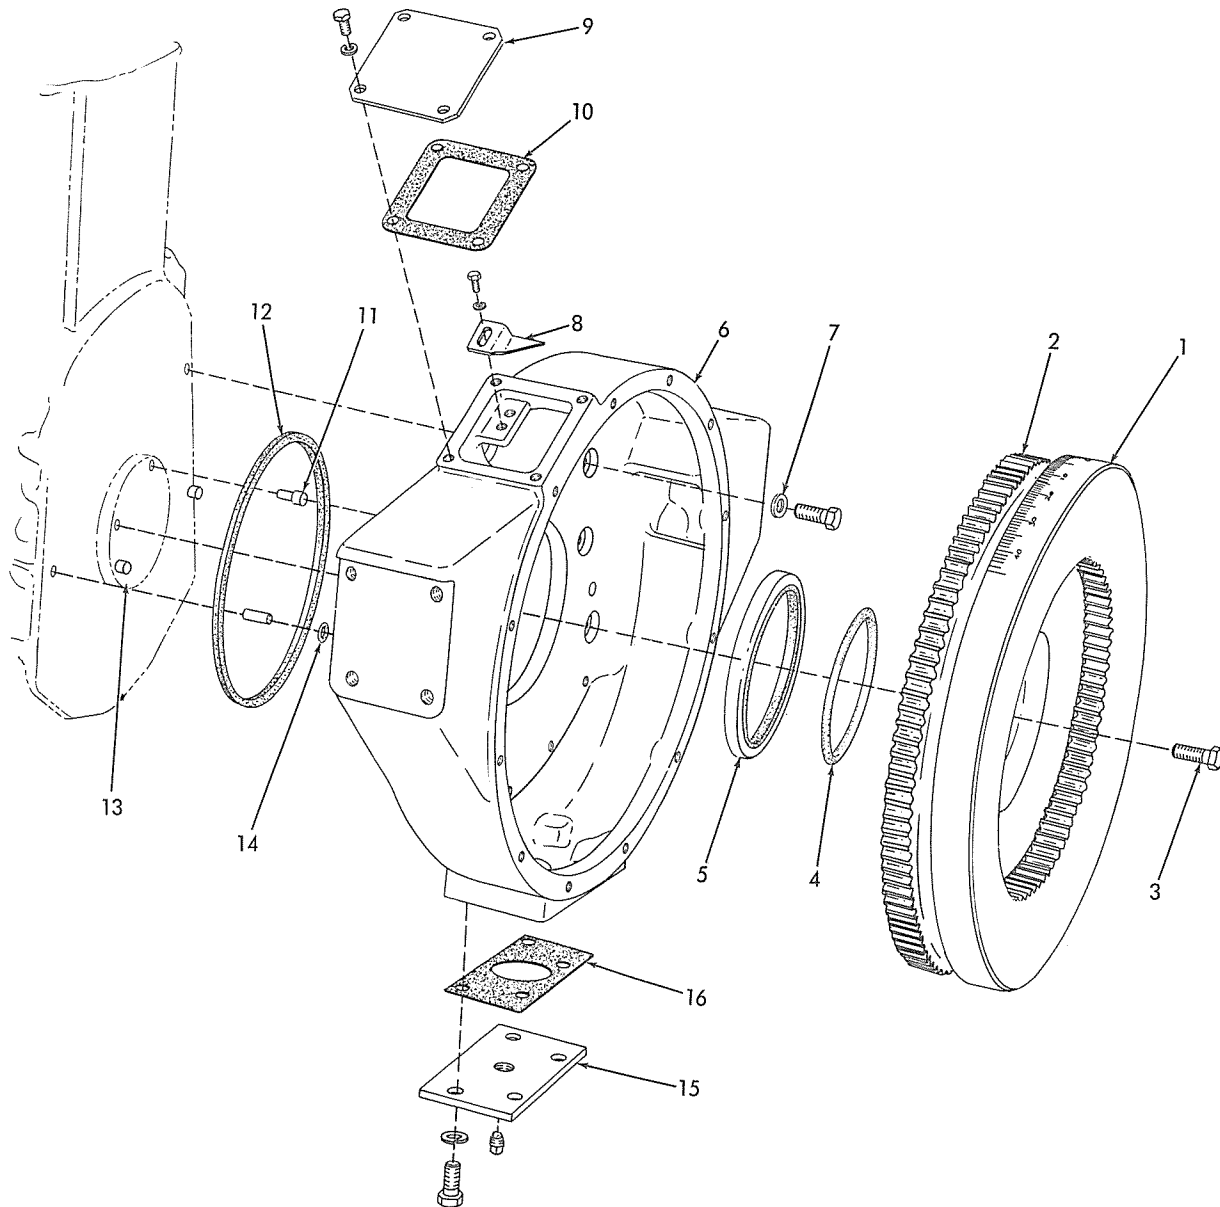
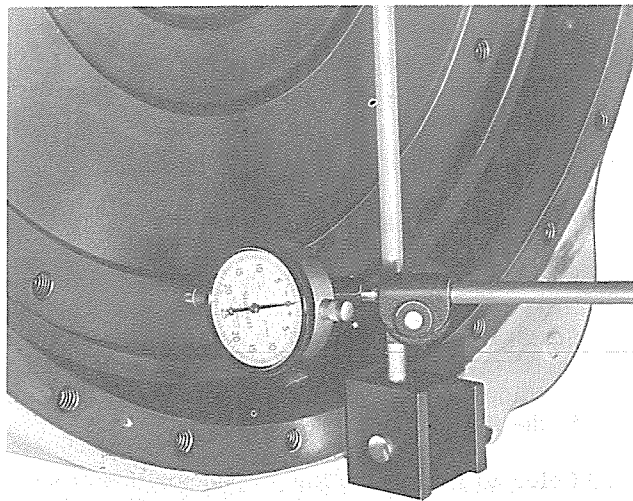

Fig. 1 — Typical Flywheel and Flywheel Housing
Fig. 2 — Measuring Run-Out of Flywheel Face (T-40271)
The flywheel Fig. 1 (1) is bolted to a flange (13) on the rear end of the crankshaft and is doweled (11) in two places. One capscrew hole in the flywheel is offset and the flywheel can be attached to the crankshaft flange in only one position. A starter ring gear (2), made from heat treated steel, is shrunk onto the rim of the flywheel.
- Remove bolts, Fig. 1 (3); attaching flywheel (1) to crankshaft flange (13) and remove flywheel.
- Install flywheel by reversing the removal procedure, and on applications requiring a new O-ring, Fig. 1 (4), insert it between flywheel and crankshaft flange when assembling flywheel to engine.
- After flywheel is assembled to crankshaft, tighten the flywheel bolts (3) to the specified torque of 95 - 105 lbs.ft.
- Attach a dial indicator to the flywheel housing and check flywheel face for run-out, Fig. 2, using a suitable bar inserted into the timing hole, pry flywheel to the rear, eliminating crankshaft end play, otherwise dial indicator reading will not be accurate. Flywheel face run-out should not exceed .0005" maximum total indicator reading per inch of flywheel diameter.
The flywheel housings covered in this manual are all basically similar to the one illustrated in Fig. 1 (6). In order to remove the flywheel housing from the engine, it is necessary to remove the engine from the unit. With the engine mounted on an engine stand or supported on blocks, remove the flywheel housing as follows:
6. Thoroughly clean housing with a cleaning solvent. Remove flywheel housing-to-block sealing ring, Fig. 1 (12). Remove housing dowel O-rings (14) if so equipped.
2. Position a new flywheel housing-to-cylinder block sealing ring Fig. 1 (12) in groove in housing. If engine is equipped with an oil-type engine clutch and/or torque converter, make certain the housing dowel O-rings (14) are installed.